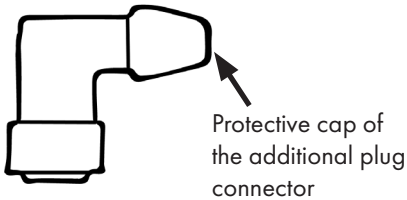

Figure 29
- Take the additional spark plug connector and loosen the protective cap of the connector, Fig. 29.